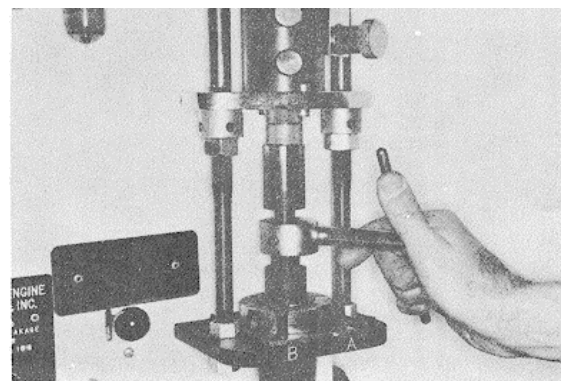

Fig. 6-1-60, F60174. Tighten T-handle clamp
9. Tighten T-handle clamp. See Fig. 6-1-60.